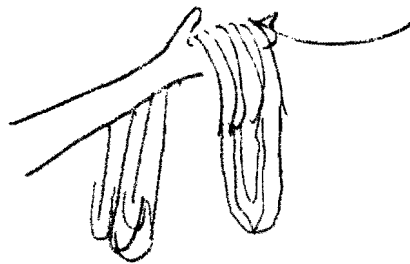

Figure 3.1. Speed Coil.
a) Speed Coiling. The easiest coil to do, and the best suited to throwing the rope, is the speed coil: the rope is simply folded back and forth across the hand in a series of large loops, as shown in figure 3.1.